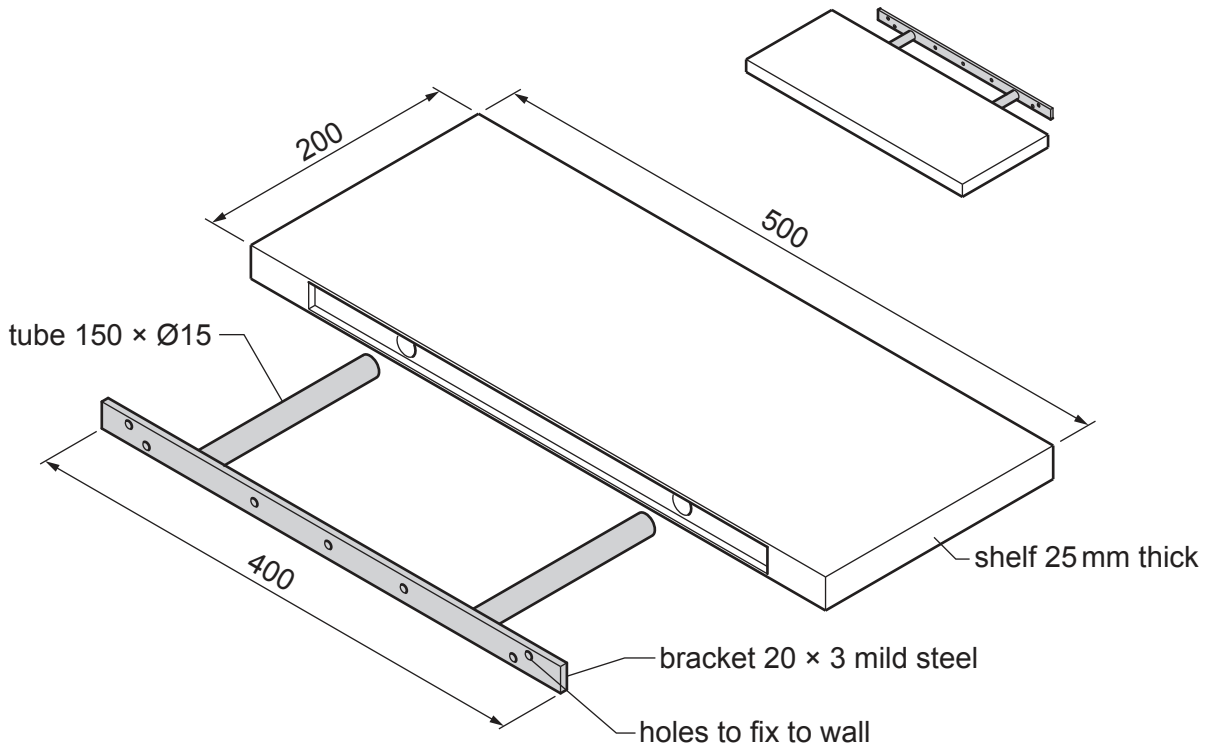

Fig. 13.1
- 13 Fig. 13.1 shows details of a 'floating' shelf.